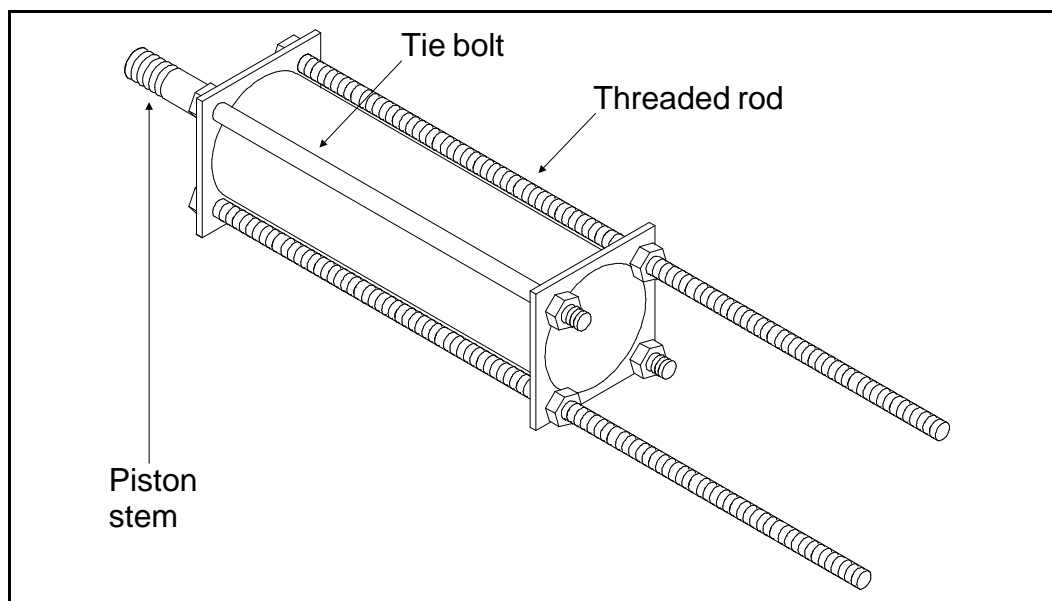

FIGURE 1 (MSSM0130AE)
1. Replace two diagonally opposite tie bolts with threaded rods and nuts as shown in FIGURE 1.